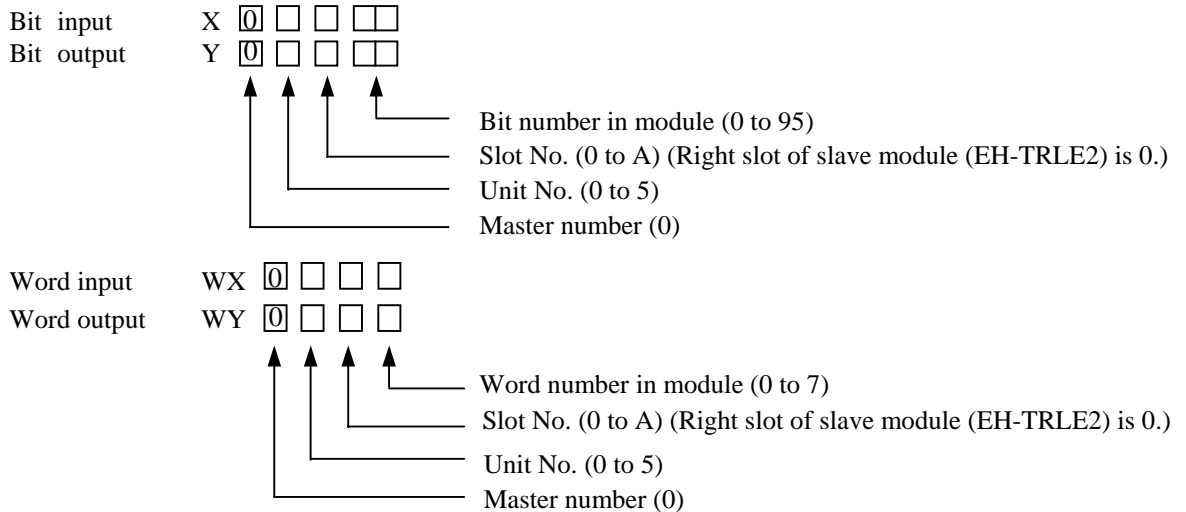

Figure 4.3.7 I/O number of I/O module on remote slave base (I/O assignment of master: “Y8W”, “X4Y4W”, “X8W”)
- 9) Refer to Figure 4.3.7 about I/O number of modules on remote slave base. In case that I/O assignment of master is “Y8W”, I/O number for I/O module on remote slave base becomes the I/O number of slot mounted master module.
- 9) Refer to Figure 4.3.7 about I/O number of modules on remote slave base. In case that I/O assignment of master is "X4Y4W", I/O number for I/O module on remote slave base becomes the I/O number of slot mounted master module.
- 9) Refer to Figure 4.3.7 about I/O number of modules on remote slave base. In case that I/O assignment of master is “X8W”, I/O number for I/O module on remote slave base becomes the I/O number of slot mounted master module.